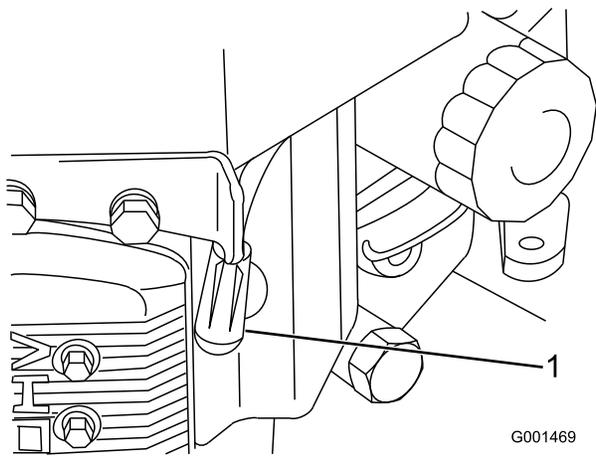

Figure 24
3. Disconnect the wires from the spark plugs (Figure 24).